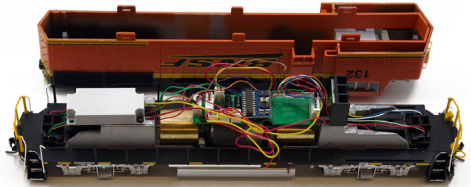

Figure 1: Remove loco shell
1. Carefully remove the locomotive shell. (**Figure 1**) Note the orientation to the frame for correct re-installation. Arrange internal wires to expose the jumper board in the locomotive.